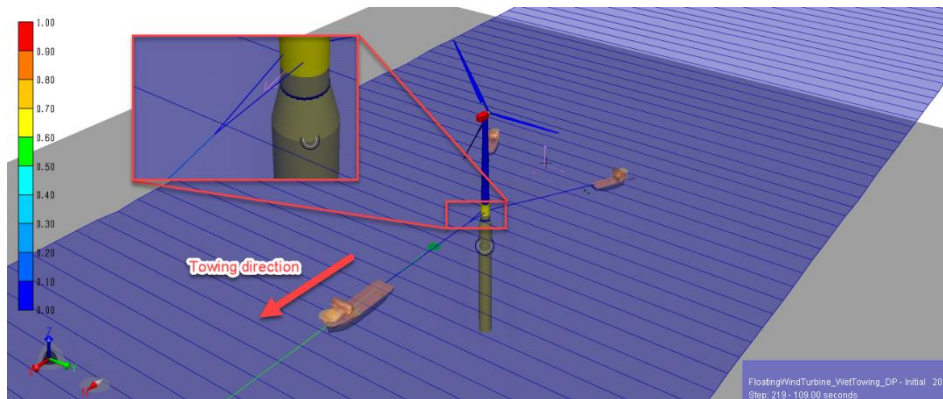

Figure 1-1 The 3D view of the model
This document introduces an example of a spar-type floating offshore wind turbine wet-towed by three towboats in a relatively calm wave and wind condition. In this example, a common towing configuration with a leading towboat and two supporting towboats as shown in Figure 1-1 is used. The functionality of dynamic positioning (DP) system equipped to the towboats is also showcased.